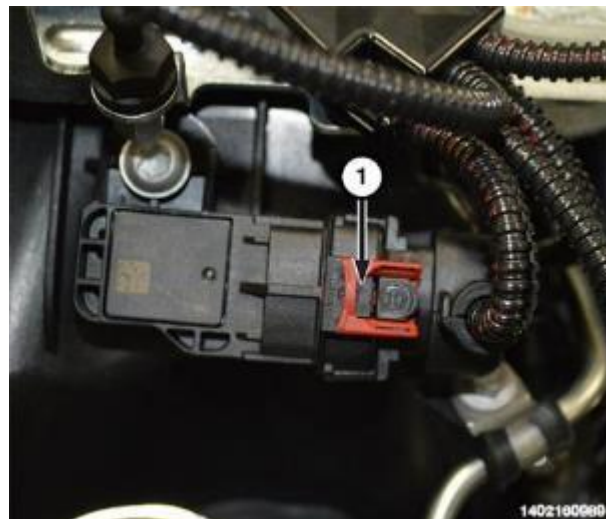

Figure 60 – Sensor Connector
108. Connect the boost pressure sensor wire harness connector (1) (Figure 60).